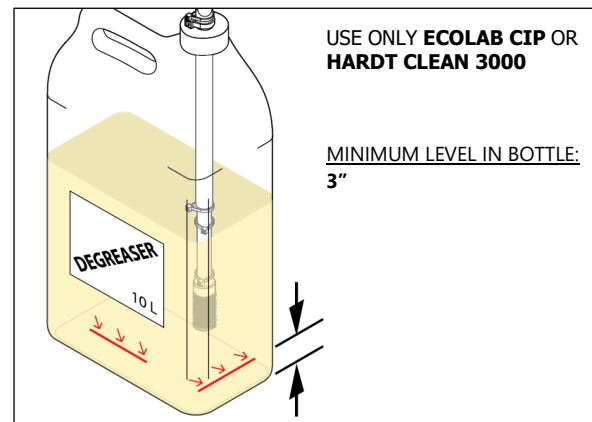

Figure 5-1
1. Verify that there is sufficient degreaser in the bottle as shown in Figure 5-1.